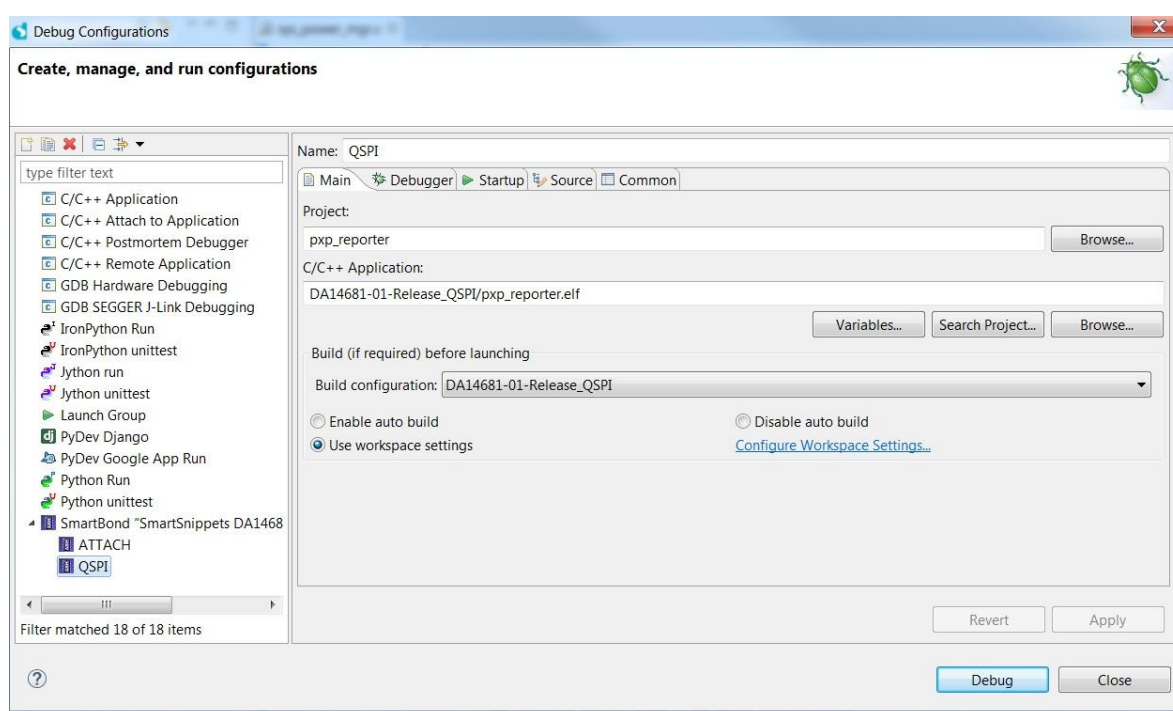

Figure 10: Configure and start Debug perspective
2. Start the debugger and run the application in it. To do this the project must be built in DA14681-01-Debug_QSPI mode. As SmartSnippets™ Studio is an Eclipse based tool the Debug view is shown a different perspective. The Debug perspective is started as follows (Figure 10):